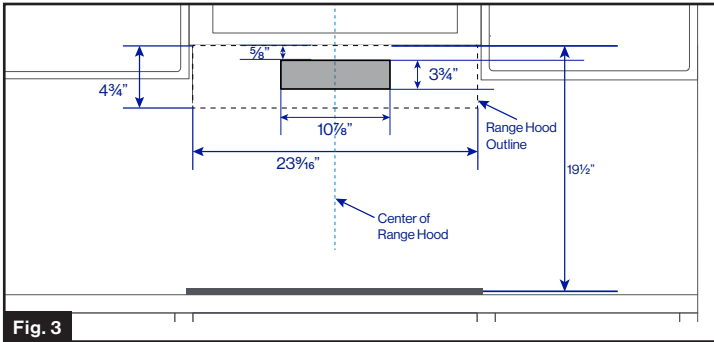
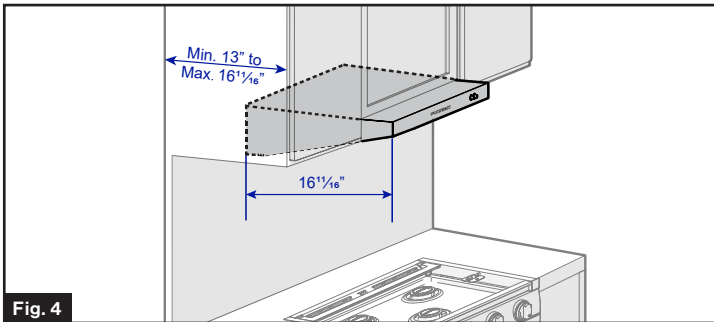

Fig. 3
Fig. 4
4. Mark the centerline of range hood on the wall. (Fig 3)
- If using a Furrion range (Model No.: F1S17****/ F1S21****) or a Furrion cooktop (Model No.: FGHQCLDA), the following minimum vertical distance and cabinet depth should apply. (See Fig. 3 and Fig. 4).
5. Mark and cutout a through-hole on the wall according to the dimensions outlined in Fig. 3.